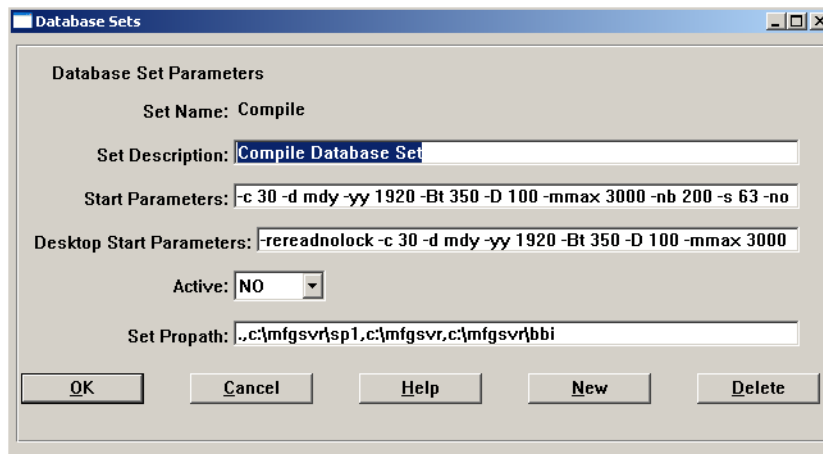

Fig. 13
- 3 Modify the PROPATH for the set so that the new service pack directory appears first, Figure 13.